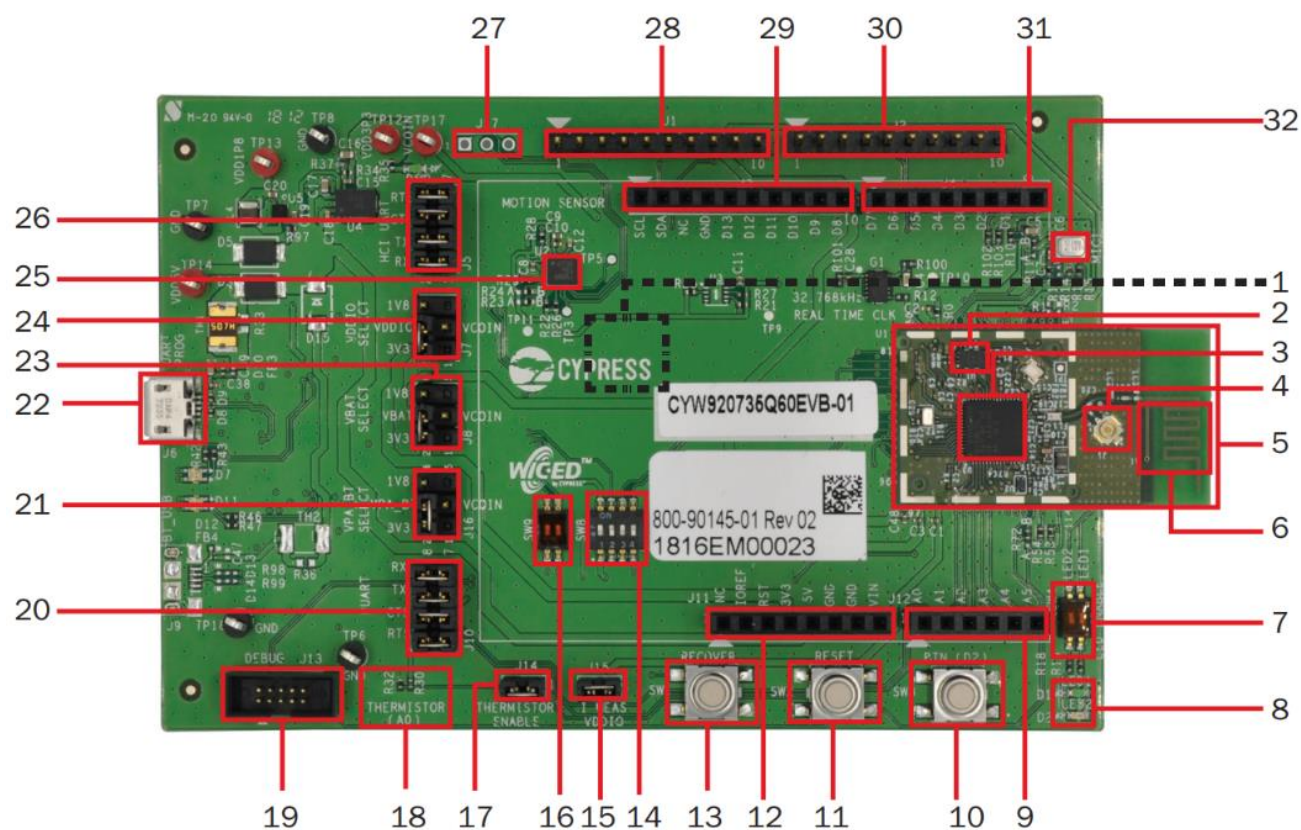
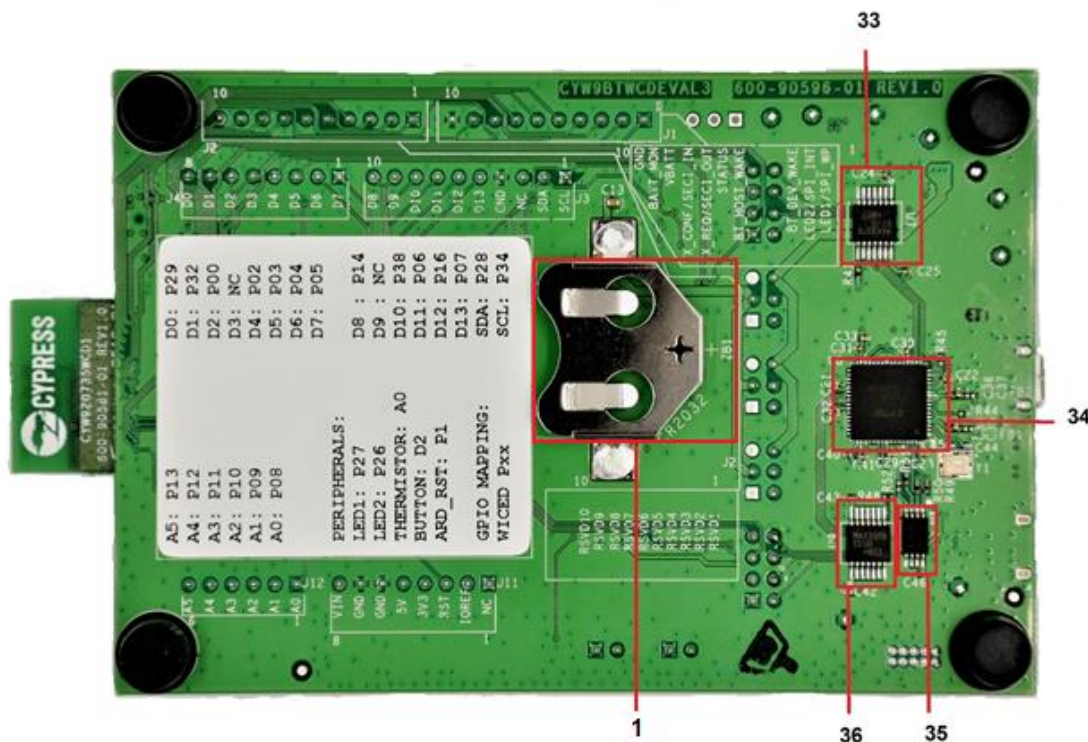

Figure 3-3. CYW920735Q60EVB-01 Evaluation Board
Figure 3-4. CYW920735Q60EVB-01 Evaluation Board (Back View)
- ☐ The value of the Hello Input characteristic is incremented each time button **SW3** (see Figure 3-3) on the EVB is pressed. The value (read-only) may be retrieved from the Hello Client application using one of the following methods:
- ☐ The Hello Configuration read-write characteristic is used to configure the number of times an LED on the evaluation board blinks (see Figure 3-3) when the value is changed and whenever button **SW3** is pressed.
2. Press button **SW3** on the WICED board (see Figure 3-3). The Hello X message is displayed in the **Value** field. Each time the button is pressed, the message number increments.
2. Press button **SW3** on the WICED board (see Figure 3-3). The LED on the board again blinks five times.
Figure 3-3 and Figure 3-4 show the markup of the CYW920735Q60EVB-01 board. See the list below for a description of the numbered items.